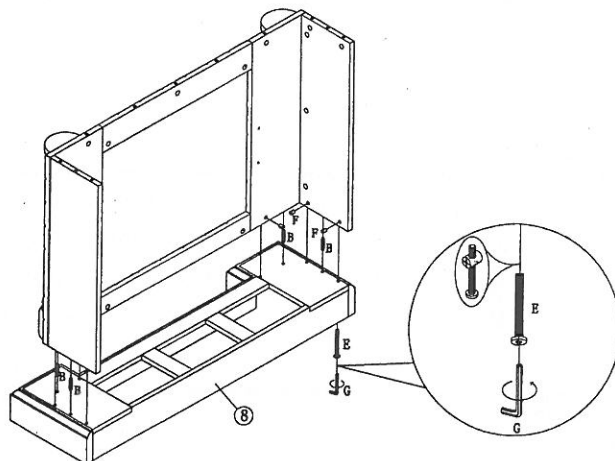
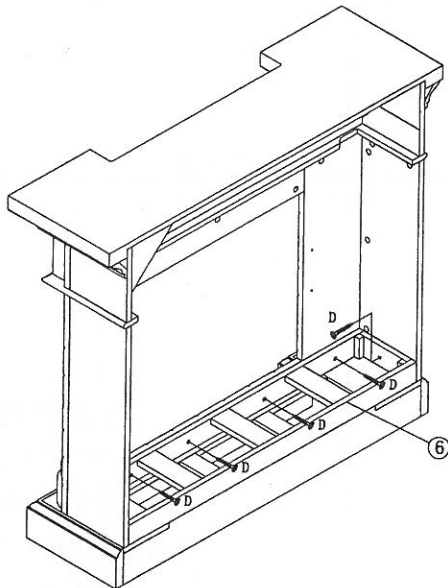

Figure 3
Figure 5
INSERT 4PCS WOOD DOWEL(B) AND 6PCS SOCKET HEXAGON SCREW(E) TO CORRESPONDING HOLES OF BOTOOM FRAME(8) AND PLACE THE ASSEMBLED UNIT OF FIGURE 5 ONTO BOTTOM PANEL UPRIGHTLY. THEN INSERT CAM-NUT (F) INTO CORRESPONDINIG HOLES, AND TIGHTEN (E) WITH SOCKET HEAD WRENCH(G); AS FIGURE3 SHOWN.